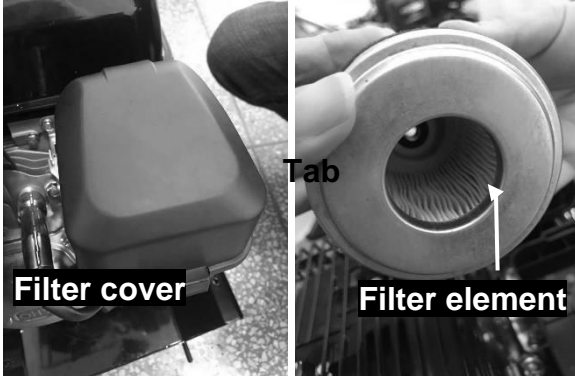

Fig.12A Fig.12B
1. Remove the cover. (Fig.12A)